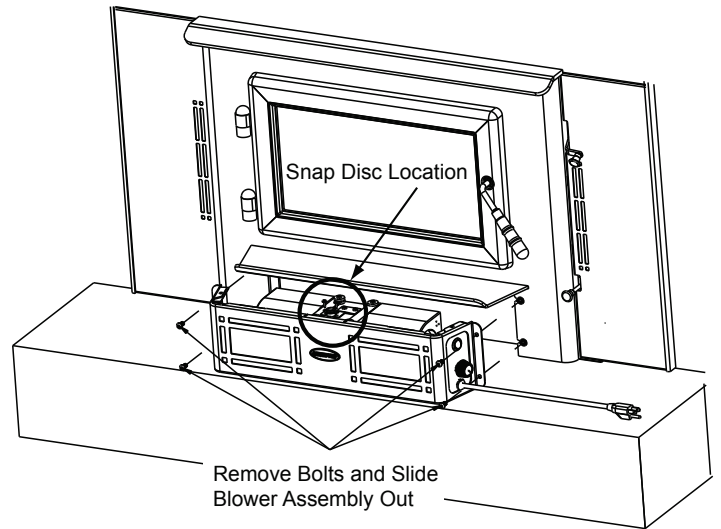

Figure 26.3 - Snap Disc Location
1. The snap disc bracket assembly is located on top of the blower housing in the center (**Figure 26.3**).